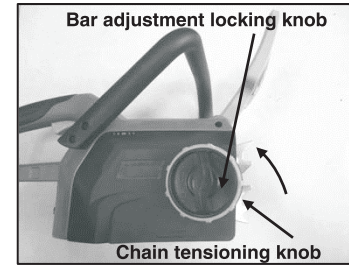

Fig.2A
2. The chain tensioning knob must be rotated counterclockwise until it stops. (Fig.2A)
3. Bar adjustment locking knob should be rotated counterclockwise until it stops. (Fig.2A)